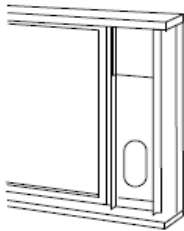

Fig. 16
4. Close the door/ window on the window slide bars. For long term installation, you may screw the window kit into your window frame. Fig. 16.